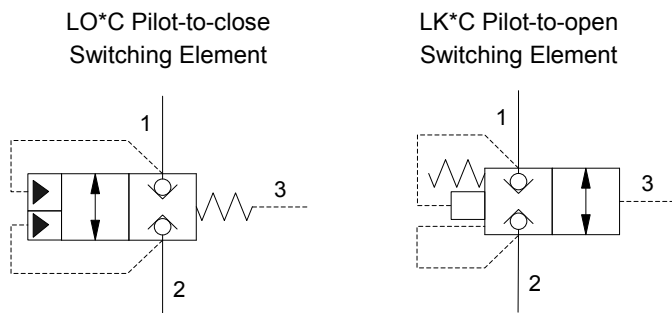

Figure 3: Unbalanced Switching Cartridges
- LK\*C pilot-to-open (normally closed) unbalanced switching cartridges (see figure 3).